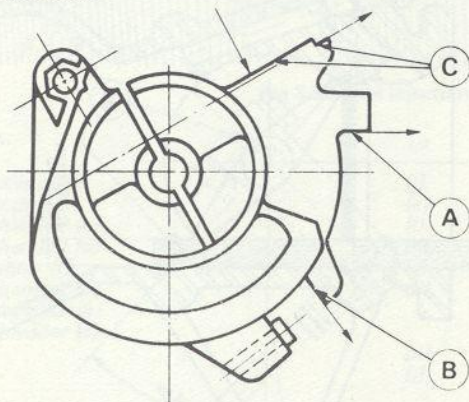
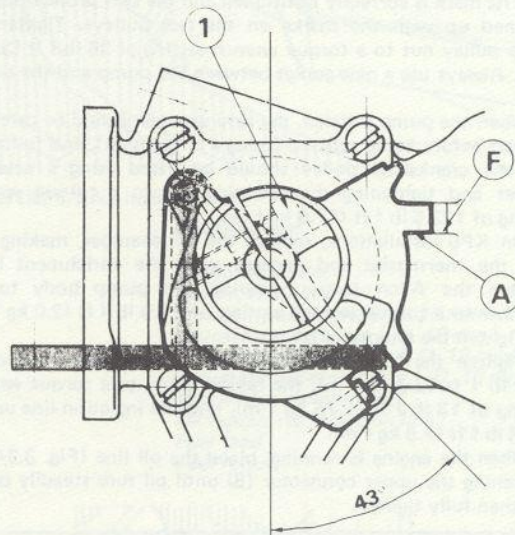

Fig 3.40 Throttle drum setting - Part 1 (Sec 39)
Fig 3.41 Throttle drum setting - Part 2 (Sec 39)
5 It now remains to align the throttle drum correctly. This has three reference faces as shown in Fig. 3.40. It is secured to the spindle by an Allen screw which is accessible after removal of the throttle return spring. Slacken this screw and line the reference face (A) with the lower face (F) of the boss on the air chamber as shown in Fig. 3.41. When tightening the Allen screw, leave a clearance of 0.004 in (1 mm) between the drum and the housing.